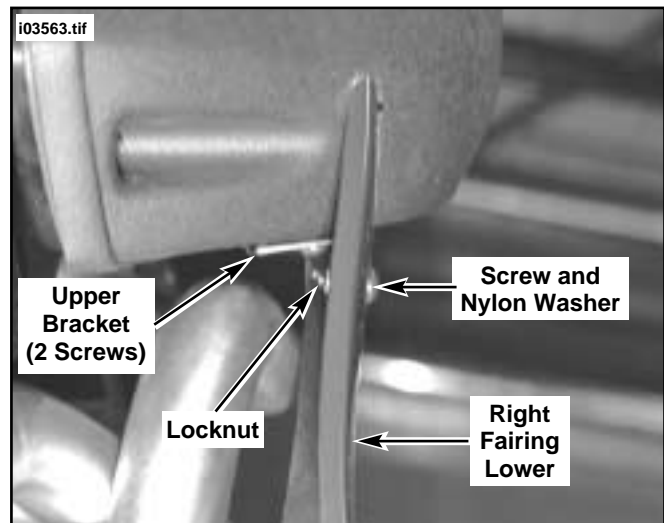

Figure 1. Install New Fairing Upper Bracket Hardware
3. See Figure 1. Obtain the new upper bracket (Part Number M0532.M) from kit and install the upper bracket to the air cleaner cover using screws saved in Step 2. Make sure to use the same locations noted during Step 2. Tighten screws securely.